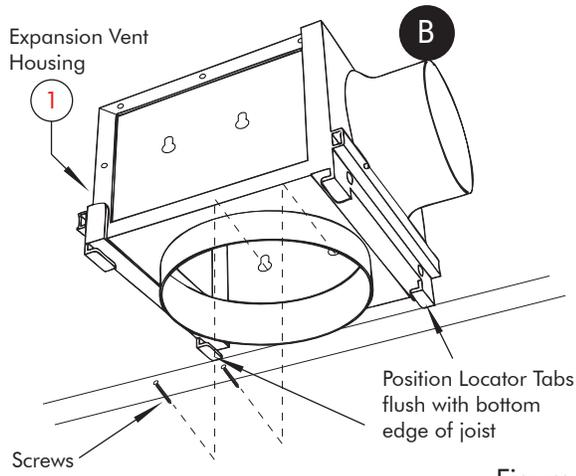

Figure 1
- Using the 1" wood screws (4) provided, attach the fan mounting bracket (2) to a support beam at the selected location (see figure 1 on page 6). **Note:** Fan (1) mounting can be at any point along the duct and in any angle; however, vertical mounting is recommended to reduce condensation buildup in the fan (1). If a horizontal installation is necessary and condensation buildup may pose a problem, wrap insulation around the fan (1).
3. Mount expansion vent housing (1) directly to the ceiling joist using screws and keyhole slots. Locator tabs on housing should be flush with the bottom edge of the ceiling joist for correct positioning of the unit once ceiling material is installed (see figure 1 on page 10).
4. Cut a 6" round hole for the expansion vent grille (2). To complete installation for Bath Fan models with lights, continue with steps 6 and 7. For models without lights, skip to step 7.